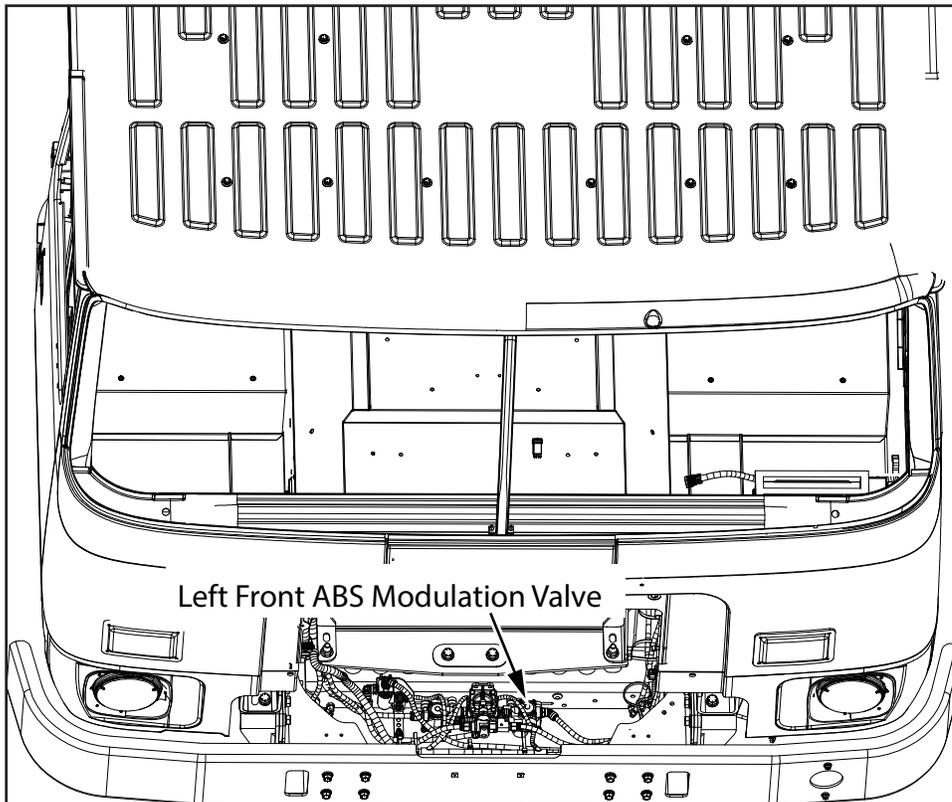

Figure 6
9. Locate the left front ABS modulation valve and wiring connector (see Figures 6 and 7)